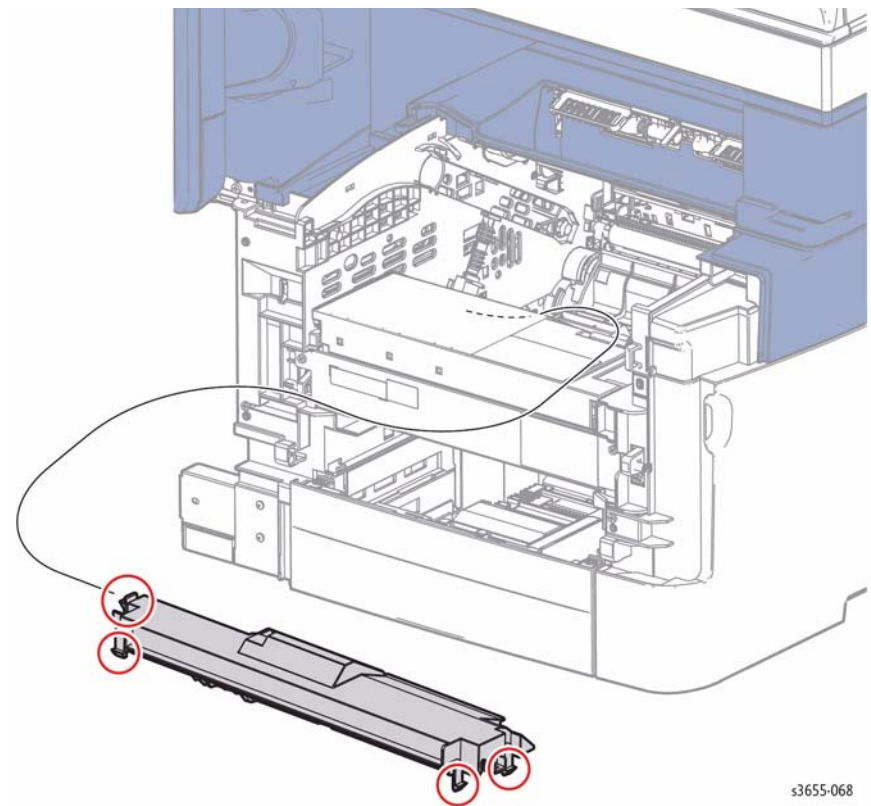

Figure 1 Remove the Top Frame Assembly
3. Refer to Figure 1 to locate and release 4 clips that secure the Top Frame Assembly to the chassis.